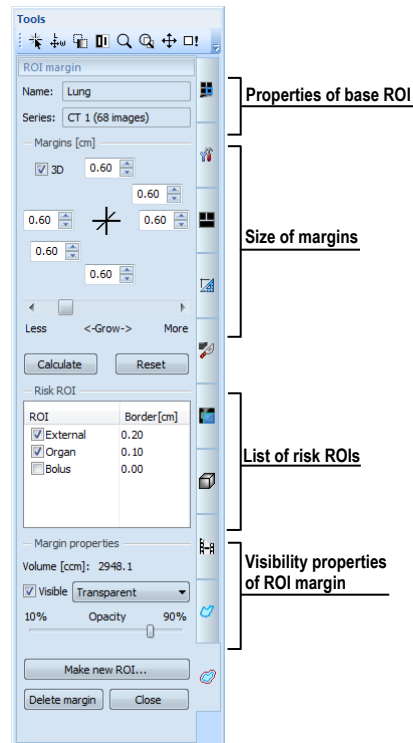

Figure 192 – ROI margin tool
3. The **ROI margin** tool will be displayed as a new tab in the tools panel automatically. You can define options for ROI margin there (see Figure 192).